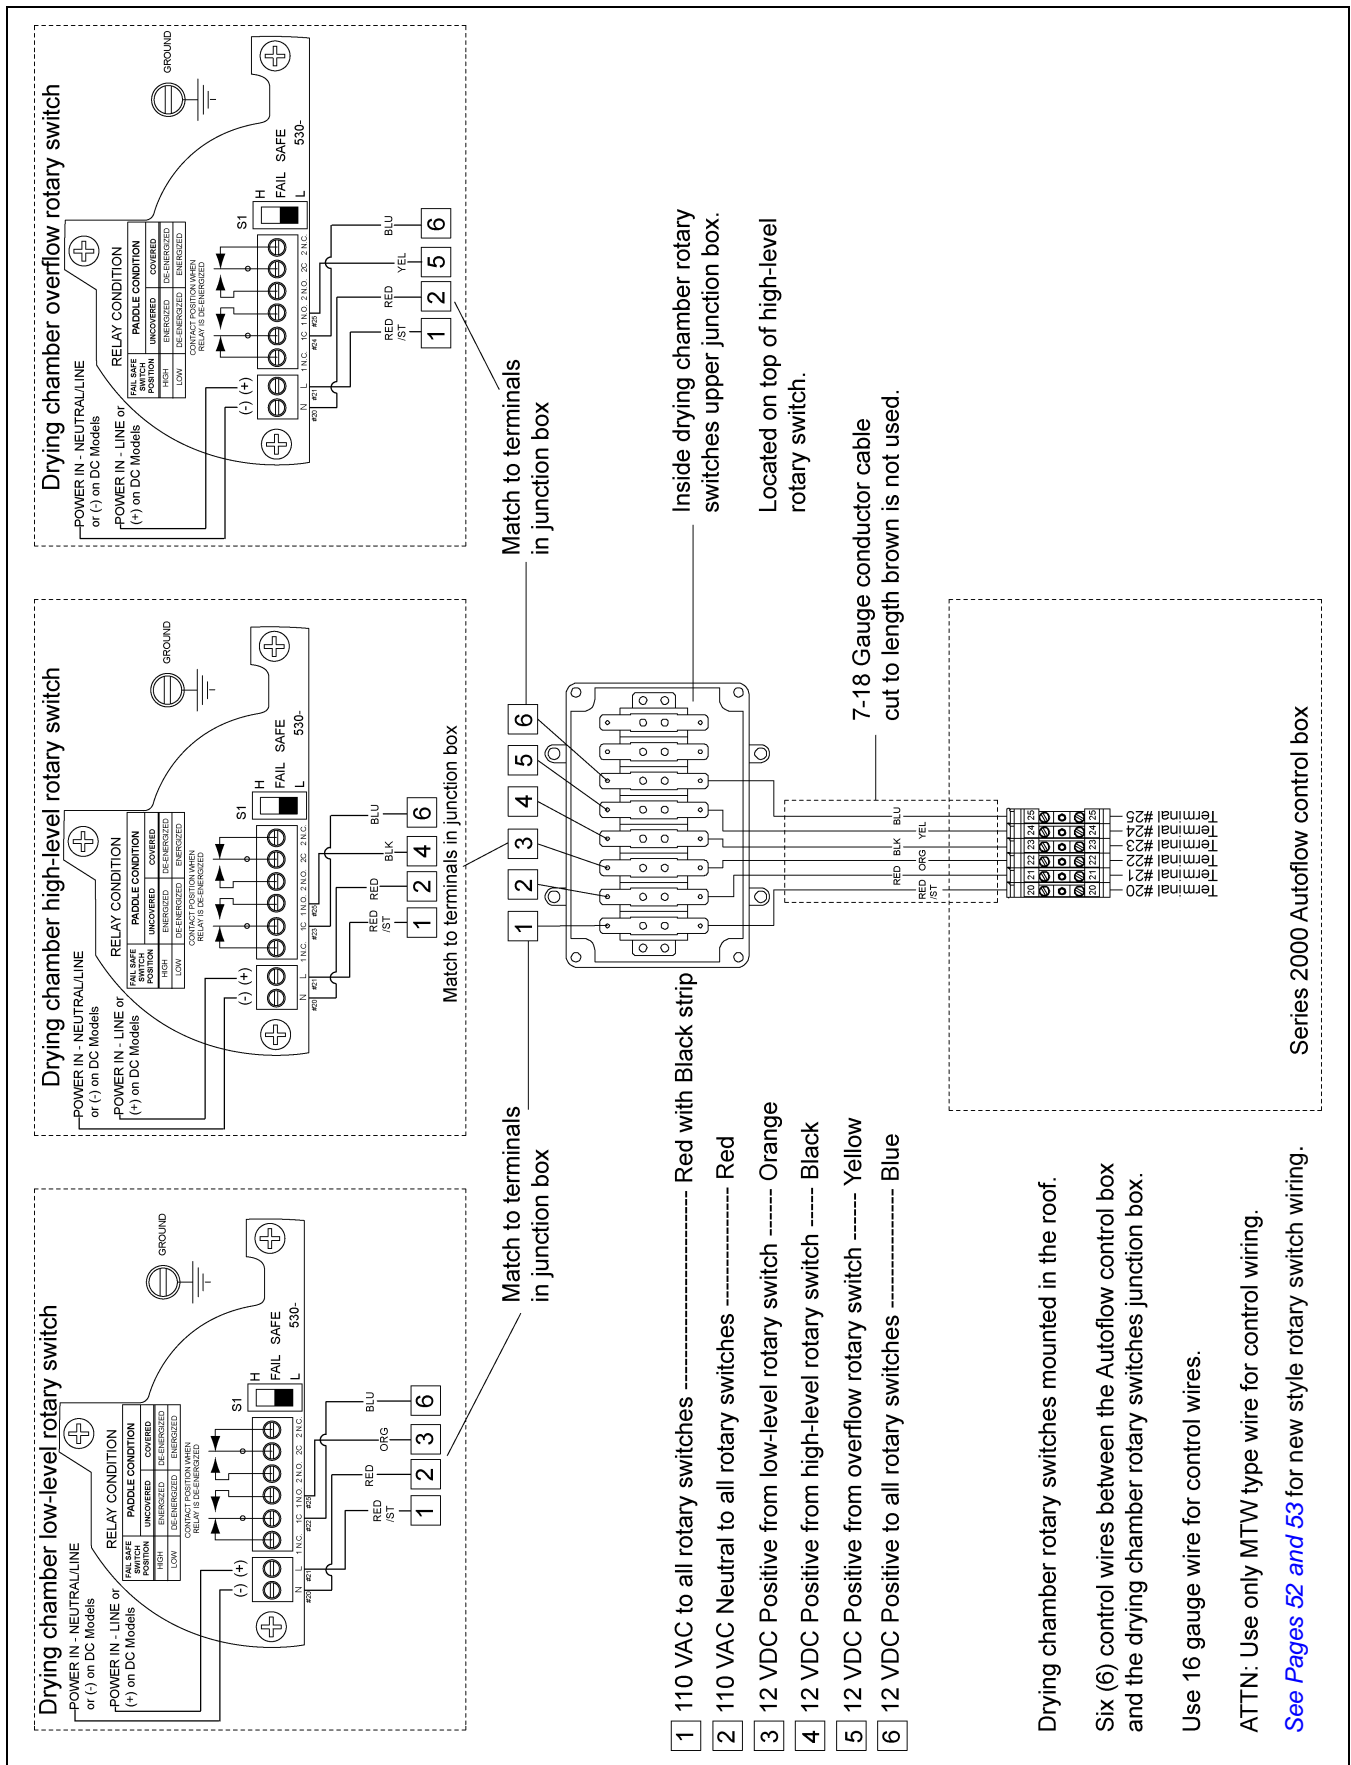

Figure 4I
1. Run six (6) control wires from the Autoflow control box to the Drying Chamber Rotary switches.
2. Connect the wires as shown in Figure 4I on Page 51.